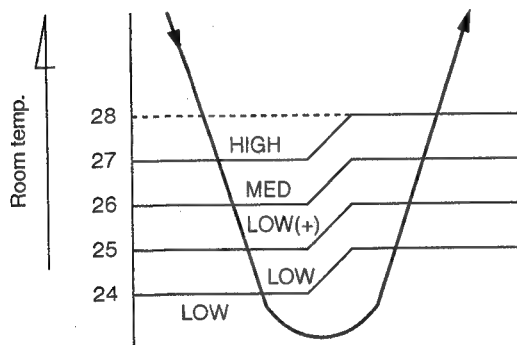

Fig. 7-1-1 Auto setting of air volume
- 1) When the FAN is set to AUTO, the indoor fan motor operates as shown in Fig 7-1-1.